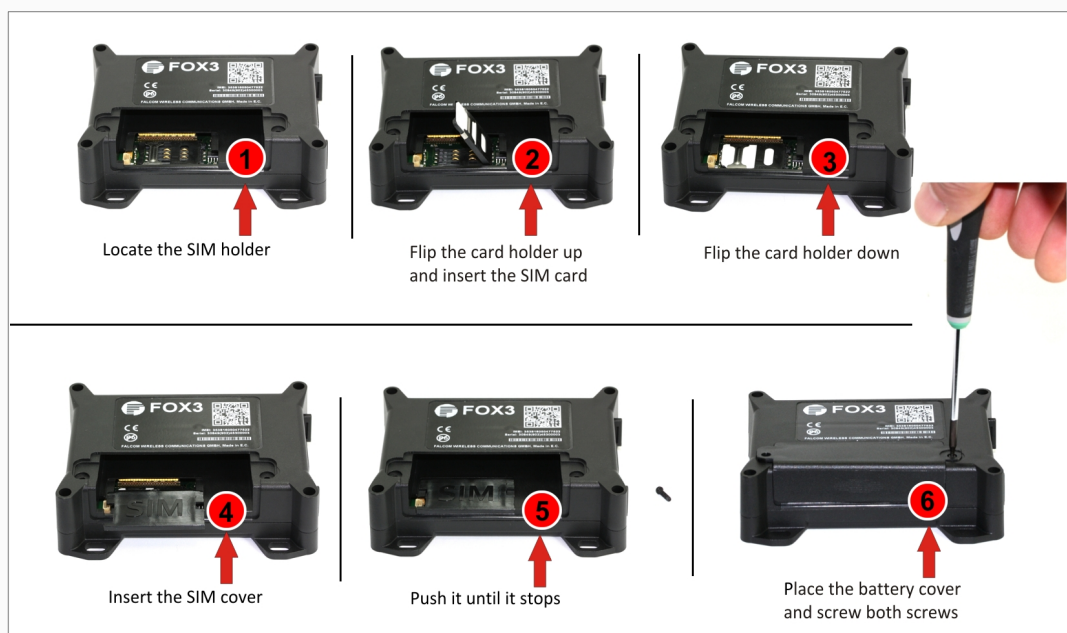

Figure 14: Steps for inserting the SIM card into FOX3-2G/3G/4G devices
- 1) Remove the power supply and any other connections from the device. Turn the FOX3-2G/3G/4G devices on their back side as shown in the figure 14 below.
- 2) Indicate the SIM card holder on the left of the battery tray (1). To open it, push the metal slider in direction marked "OPEN".
- 3) Flip the card holder up (2).
- 4) Insert the SIM card (3) into the card holder in direction as shown in the figure below.
- 5) Flip the card-holder back (without force) (4), then hold it pressed and move the metal slider in direction marked "LOCK" until it stops.
- 6) Insert the SIM card cover in the direction as shown in picture below (5) and slide it until it stops.